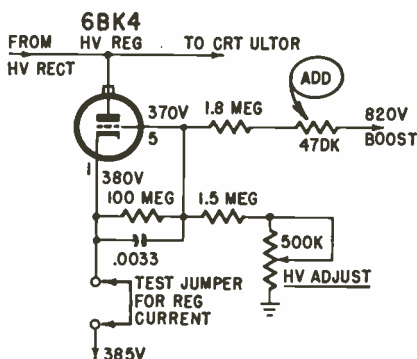

Fig. 918. If too-high HV-regulator current causes blooming, add 470,000 ohms to the grid circuit. (Also see Fig. 909 on page 131.)
Fig. 909. High-voltage regulator circuit can have some critical values. Regulation depends on voltage divider in grid circuit of 6BK4. (Also refer to Fig. 918 on page 140.)
*Service:* This is most likely due to too much current in the 6BK4 high-voltage regulator. Try adding about 470,000 ohms to the grid resistor. This is a 1.8-megohm 1-watt resistor between the 6BK4 grid and boost voltage. See Fig. 918.